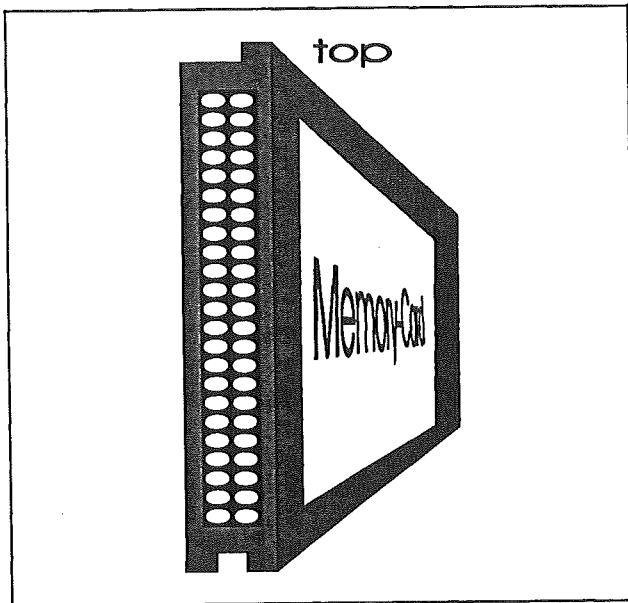

Fig. 90 Memory card
2. Plug memory card into the vertical slot as shown in fig. 90, irrespective of the arrangement of the label (wrong polarity not possible due to mechanical polarity protection).